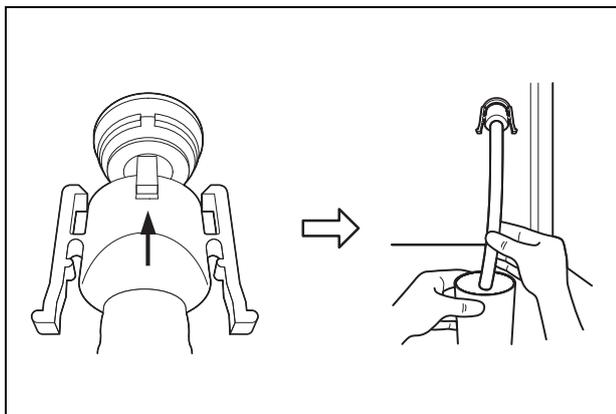

Figure 7.68
8. Put the tube-side end of the disinfectant removal tube in the container (small), and connect the disinfectant removal tube to the disinfectant removal port to drain the small amount of residual disinfectant solution from the disinfectant solution tank (see Figure 7.68).